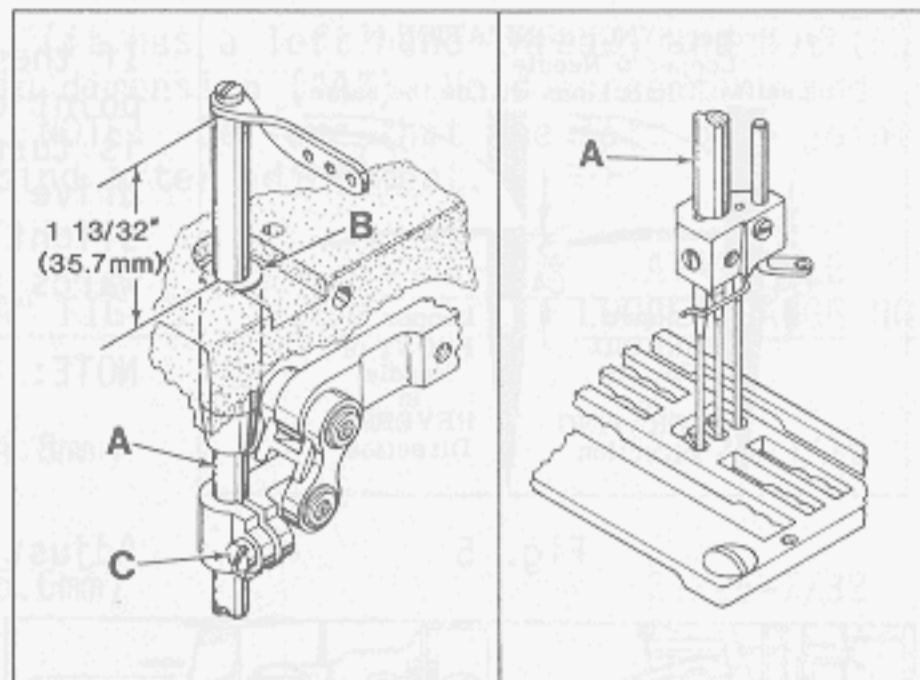

Fig. 3
Insert a new set of needles (type and size required). With needle bar (A, Fig. 3) at TOP of its stroke, check to ensure an approximate setting of $1\frac{13}{32}$ inch (35.7mm) from top of needle bar to top of needle bar bushing (B). Adjustment can be made by loosening clamp screw (C) and moving needle bar up or down, re-tighten screw (C) TEMPORARILY. Turn handwheel to bring needle bar down to ensure that needles center in needle holes of throat plate as shown in Fig. 3. Adjustment can be made by loosening screw (C) slightly, allowing needle bar to be turned as required, being careful not to change the temporary height setting. Tighten clamp screw. Re-check temporary height setting.